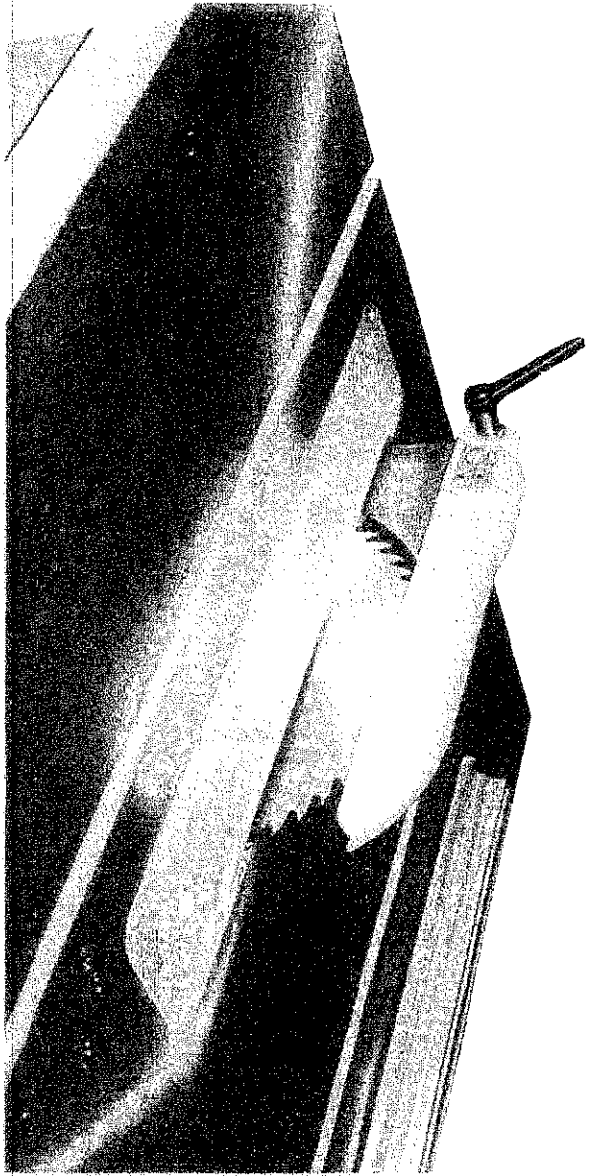

FIG 9
- c) Fit sawguard as shown in FIG.9.